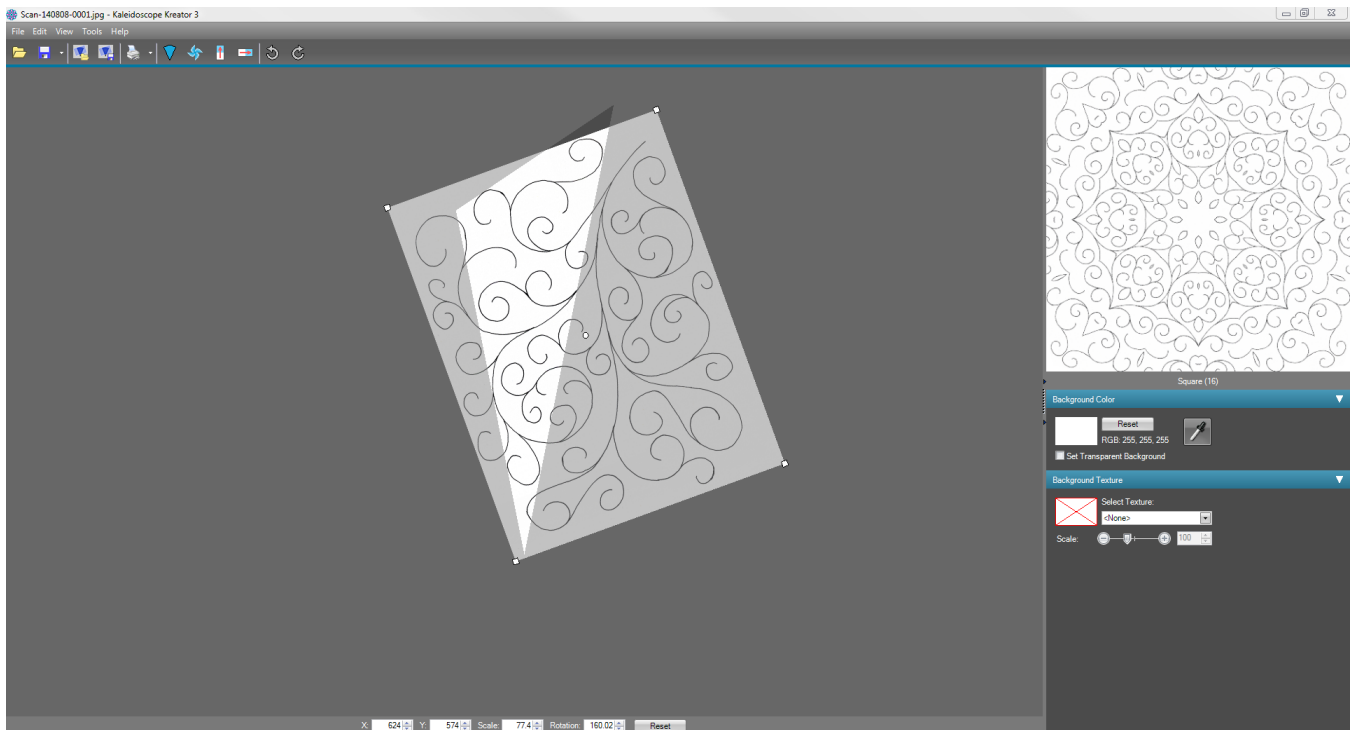

Figure 2
5. Move, resize and rotate the doodle in the Kaleidoscope Kreator workspace until you get a kaleidoscope design that you like. (Fig. 2)